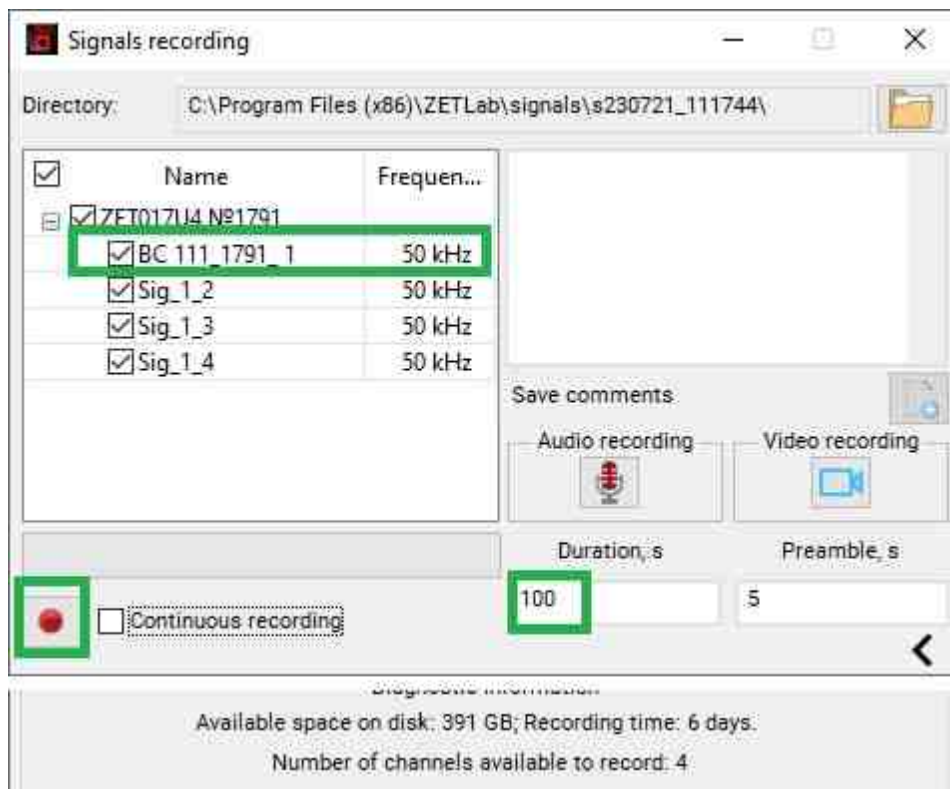

Fig. 1.1 "Signals recording" program
2. In the opened window of the "Signals recording" program (*Fig. 1.1*):